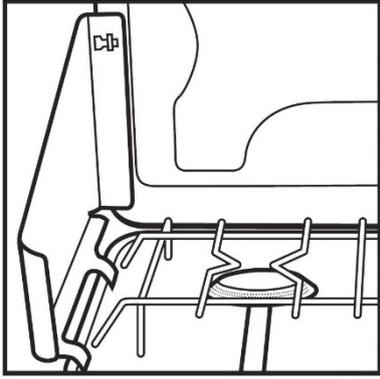

FIG. 1
2. Open lid and align holes in windscreens with tabs on inside of lid, snap into place (FIG 1).